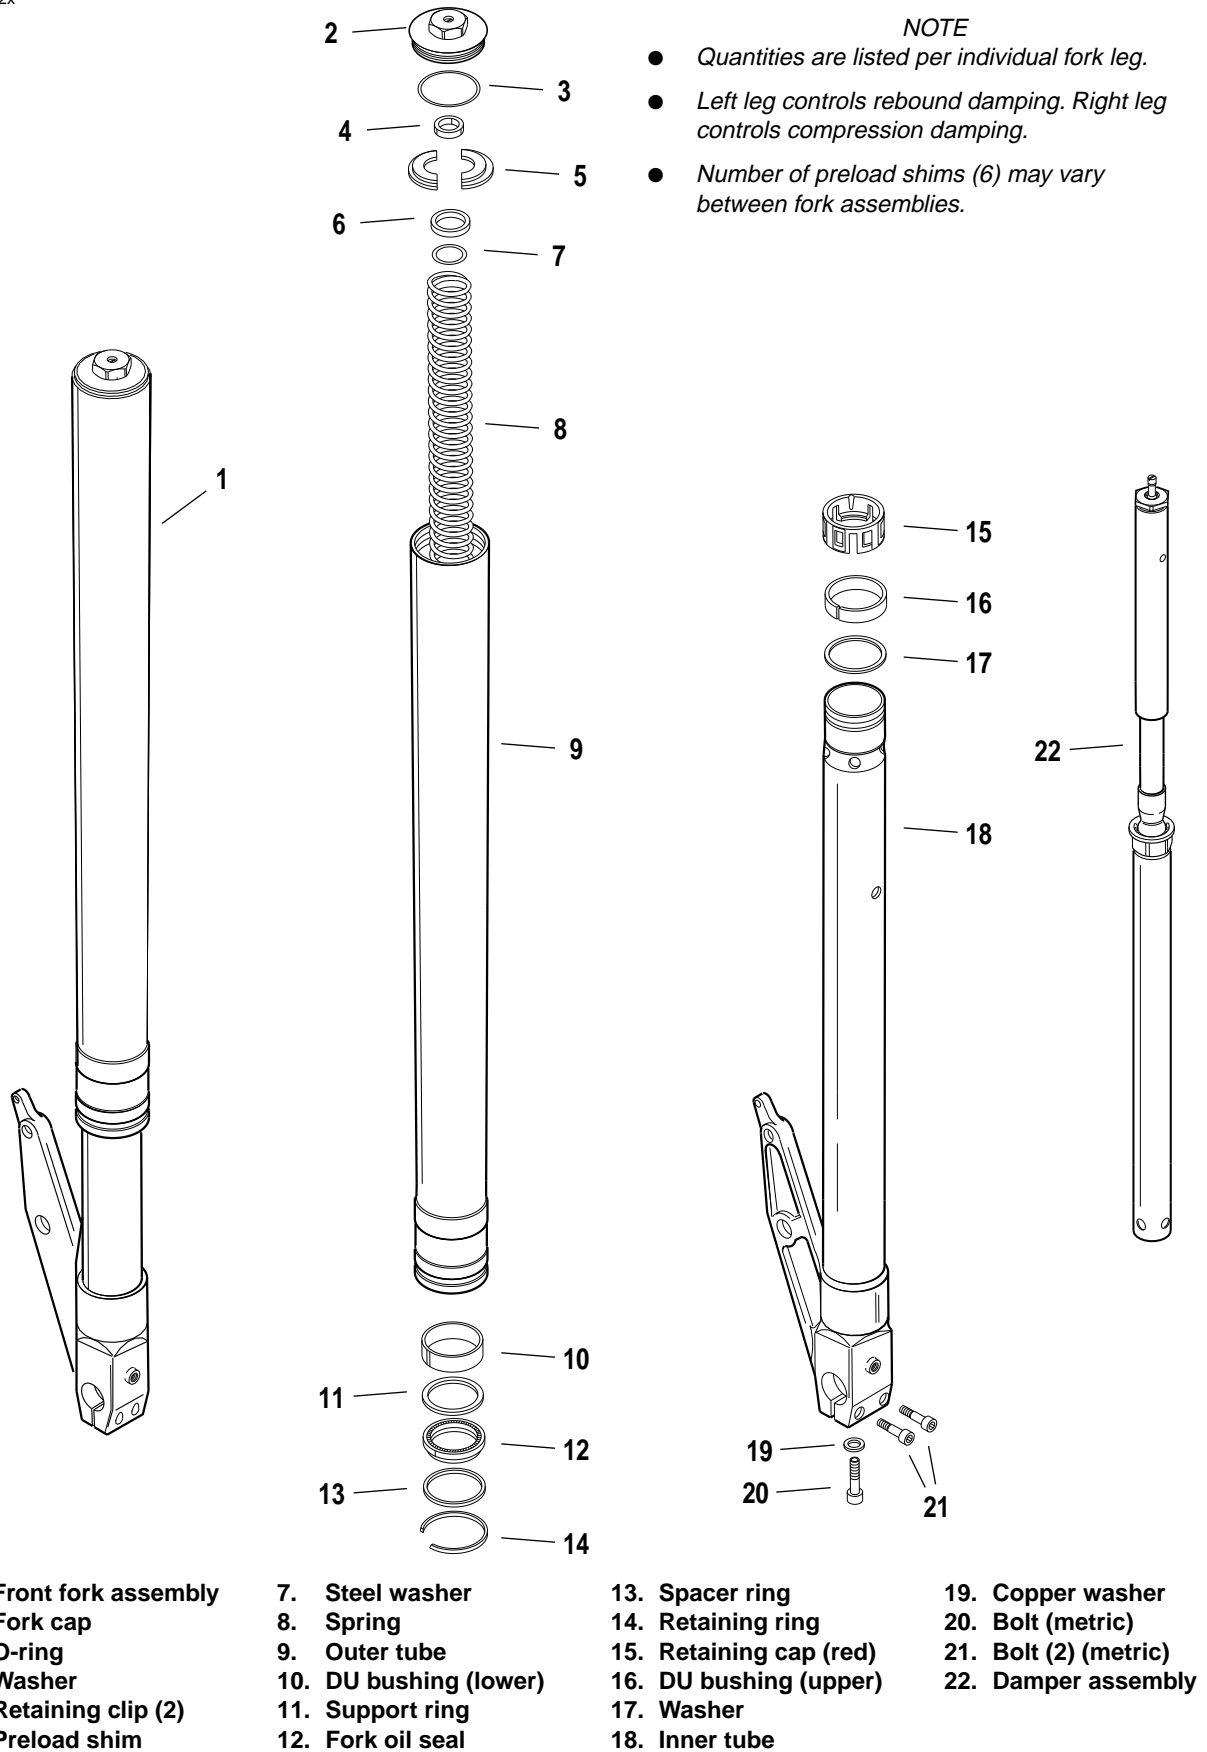

Figure 2-32. Front Forks
3. See Figure 2-32. Remove fork cap (2) (metric), O-ring (3) and washer (4).
4. Reduce spring pressure and remove both retaining clips (5).
5. Remove preload shim(s) (6) and steel washer (7).
6. Remove fork spring (8).
8. Clamp fork outer tube (9) horizontally using FRONT FORK HOLDING TOOL (Part No. B-41177). Loosen fork seal retaining ring (14) and spacer ring (13).
9. Using ROBINAIR HEAT GUN (Part No. HD-25070) heat bottom of outer tube. When the tube has sufficiently expanded, drive inner tube (18) from outer tube with a slide hammer action. Inner tube will retain fork oil seal (12) and support ring (11) in place.
10. Spread red retaining cap (15) and remove. Remove upper DU bushing (16) and washer (17).
11. Remove retaining ring (14) and spacer ring (13).
3. See Figure 2-32. Check inner tube (18). Tube surface should be shiny, smooth and free of scoring or abrasions.
3. See Figure 2-32. Install **new** support ring (11).
4. Install upper DU bushing (16) with large end towards the bottom of the fork leg. Install washer (17) and lower DU bushing (10). Install red retaining cap (15).
8. See Figure 2-32. Clamp fork in a horizontal position. Install damper assembly (22) using bolt (20) (metric) and a **new** copper washer (19). Tighten bolt to 18-23 ft-lbs (24.4-31.2 Nm).
11. Install fork spring (8).
12. Pull damper assembly above fork spring. Place steel washer (7) and preload shim(s) (6) on top of spring.
13. Installing the retaining clips (5) requires two people. Have one person compress the spring, steel washer and preload shim(s). At the same time, have the second person install both retaining clips.
14. Install washer (4), **new** O-ring (3) and fork cap (2) (metric).